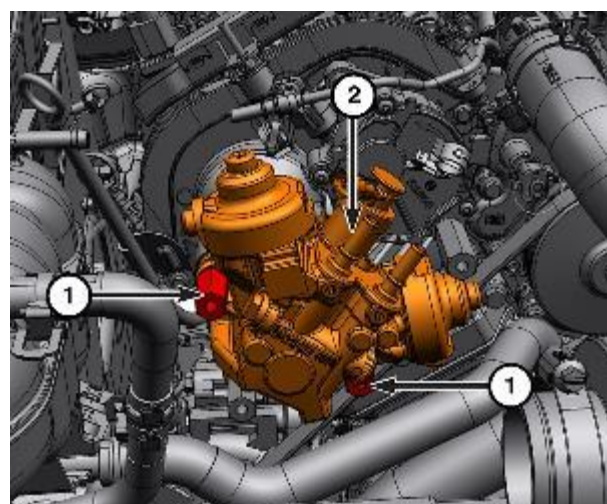

Figure 49 - Upper HPFP Bolts
27. Remove the upper bolts (1) from the high-pressure pump (2) (Figure 49).